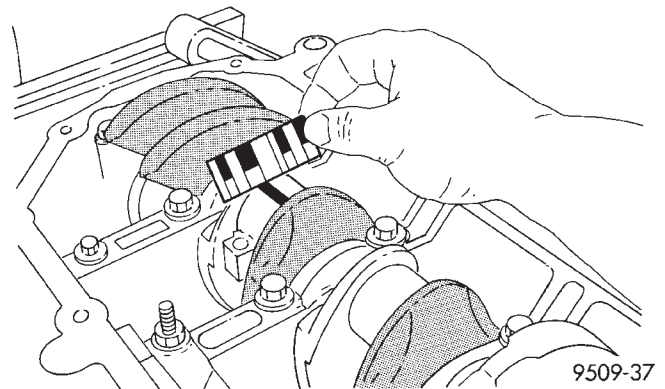

Fig. 7 Connecting Rod Bearing Clearance
(1) Follow the procedure specified in the Standard Service Procedures Section for Measuring Main Bearing Clearance and Connecting Rod Bearing Clearance (Fig. 7). Refer to Connecting Rod Specification Chart for specifications.